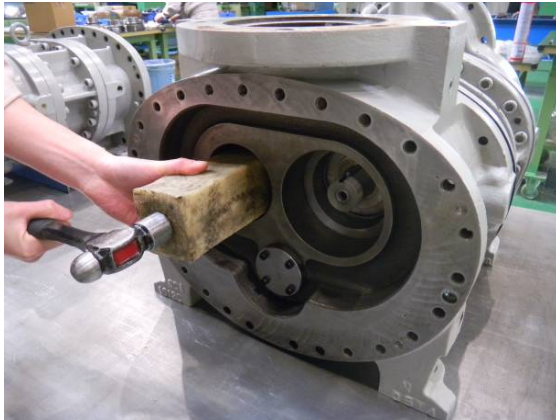
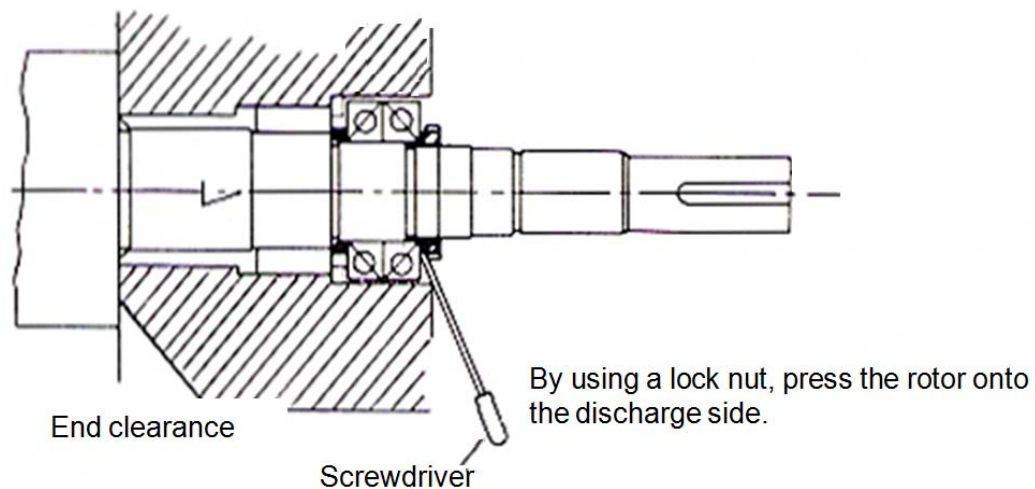

Fig. 073 Pushing Rotor from Suction Side to Discharge Side
Figure 5-9 End Clearance Adjustment [1]
- a) Push the rotor to the discharge side while the thrust bearing inner race is secured to the rotor axis. As shown in Fig. 073, push the rotor from the suction side using a fixture (Teflon). Alternatively, as shown in Figure 5-9, using the chamfered part of the lock nut, pull out the rotor with the edge of a flat screwdriver.